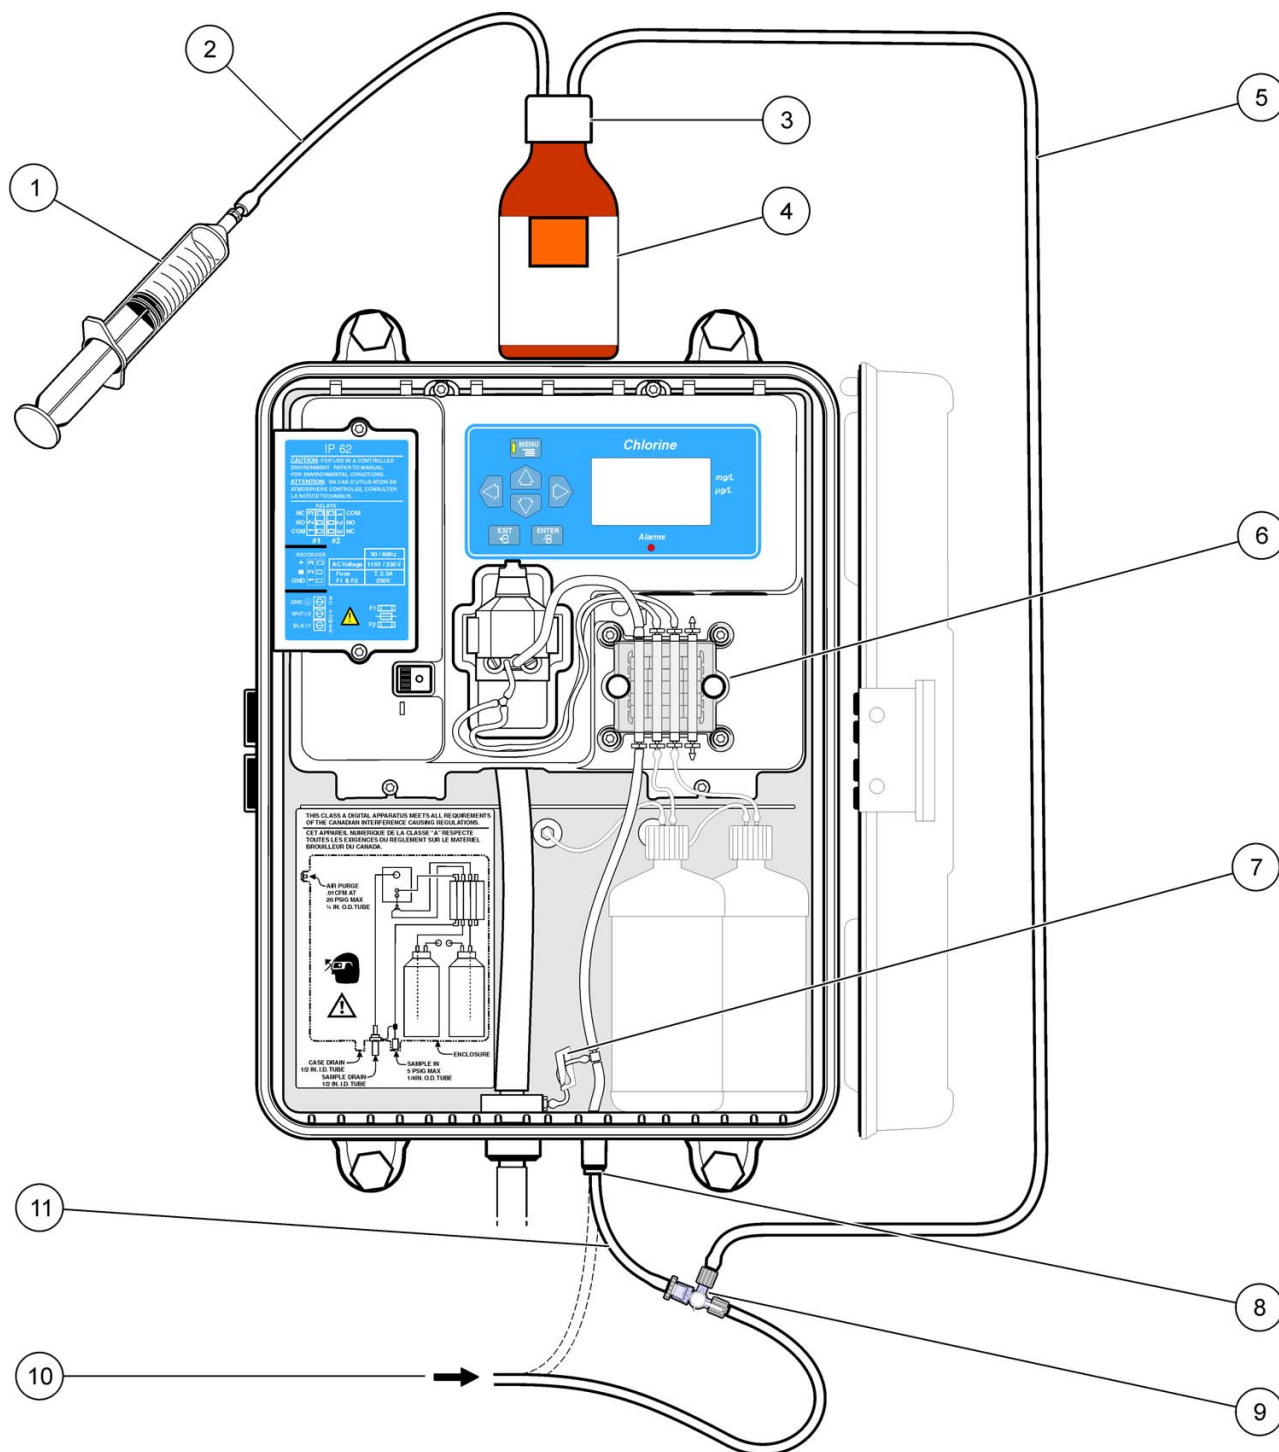

Figure 2 Calibration/verification assembly mounted on a new style CL17
4. If the analyzer is the new style, disconnect the sample in line by pushing the ring on the John-Guest fitting in and pulling the tubing out. Refer to Figure 2 on page 5 on. If the analyzer is the old style, it will be connected with a plastic nut. Disconnect the nut and remove the ferrule by cutting the tubing just above it. Allow excess water to drain into a container or onto a paper towel.
6. Cut a 2-inch piece off of the end of the tubing and insert the barbed end of the female luer fitting into this piece. Make sure the barbed end is pushed in until the tubing is snug against the luer end. Install the barbed end of the male luer into the end of the tubing that is attached to the sample line. Refer to Figure 2 on page 5.
2. Open the front of the analyzer and pinch the drain bypass line shut with the clamp (if it is not already pinched shut) to force the standard to flow through the reaction cell instead of out to waste. Place the valve in Position B. Refer to Figure 2 on page 5.